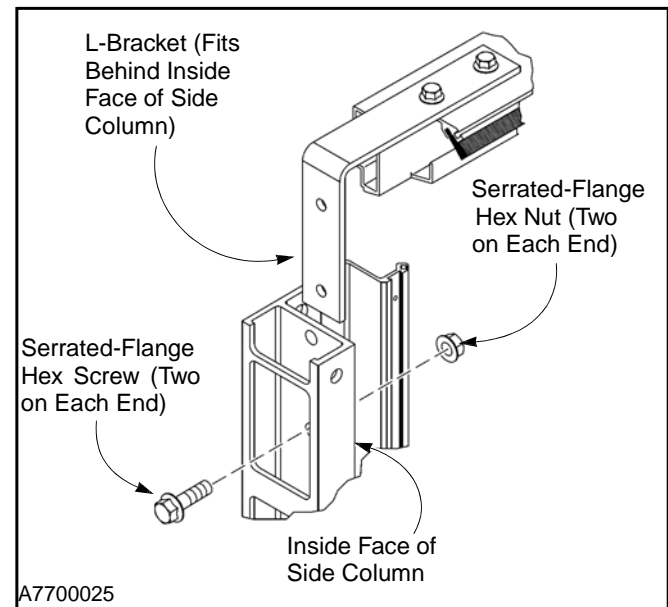

Figure 15
- Attach the spreader assembly to the inside face of each side column using two $\frac{3}{8}$ -16 x $1\frac{1}{4}$ -in. serrated-flange hex screws and nuts at each end of the assembly. Face the spreader so the brush is toward the front of the door. (See Figure 15.)